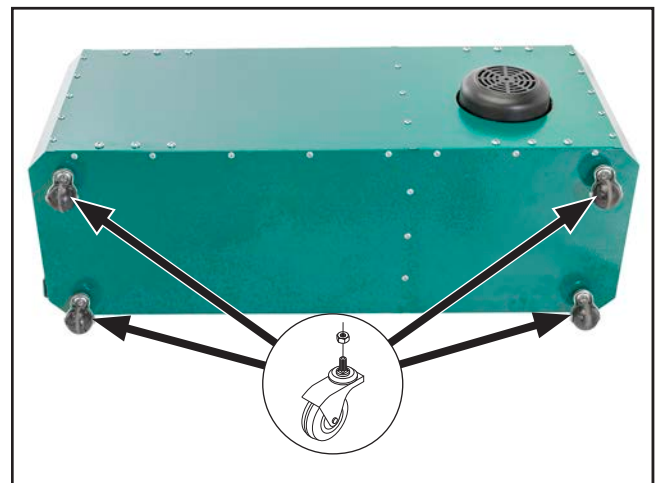

Figure 16. Example of casters installed on machine base.
3. Thread (4) $\frac{5}{16}$ "-18 hex nuts onto (4) 2" casters, then thread casters into machine base, as shown in **Figure 16**.